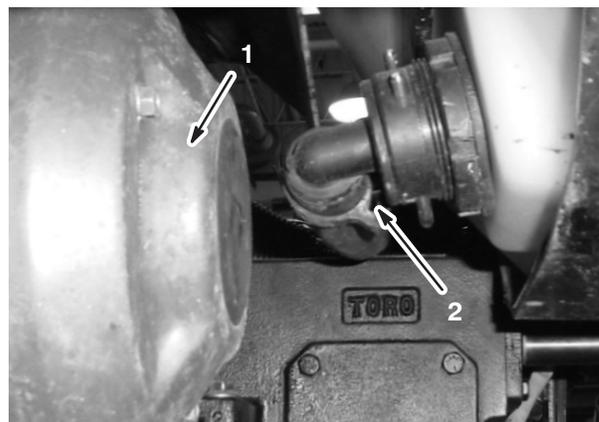

Figure 1
3. Remove the front agitation hose on the tank to allow access to drive belt. Use caution to avoid exposure to residual chemicals in the hose when removing it (Fig. 1).